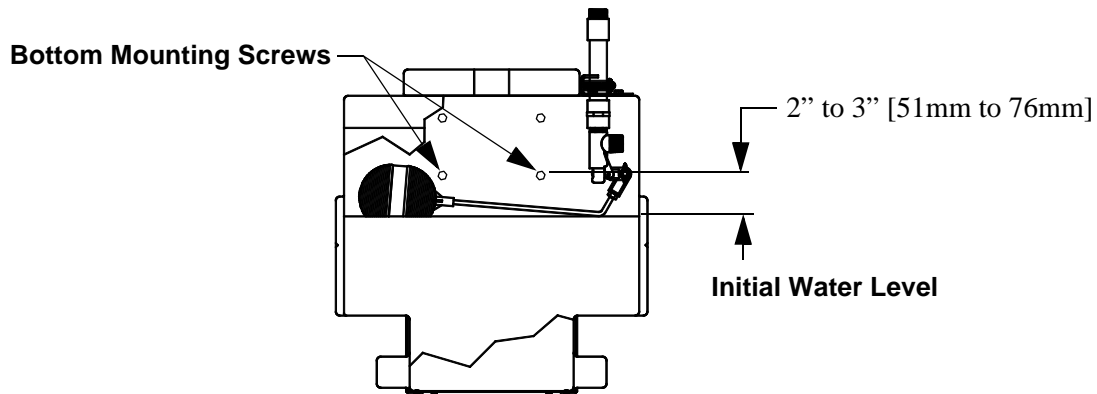

Figure 1. Initial Water Level
- Set the initial water level 2" to 3" (51mm to 76mm) below the Bottom Mounting Screws in the back of the Sump (**See Figure 1**).